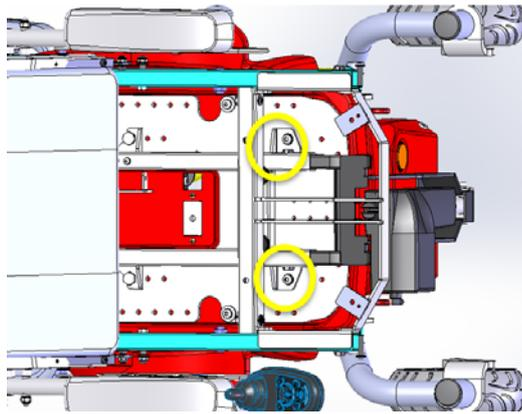

Figure 5-160
5.3.16.17 Use part F to fix seat frame. Make sure the two screws are properly tightened. (Figure 5-160)